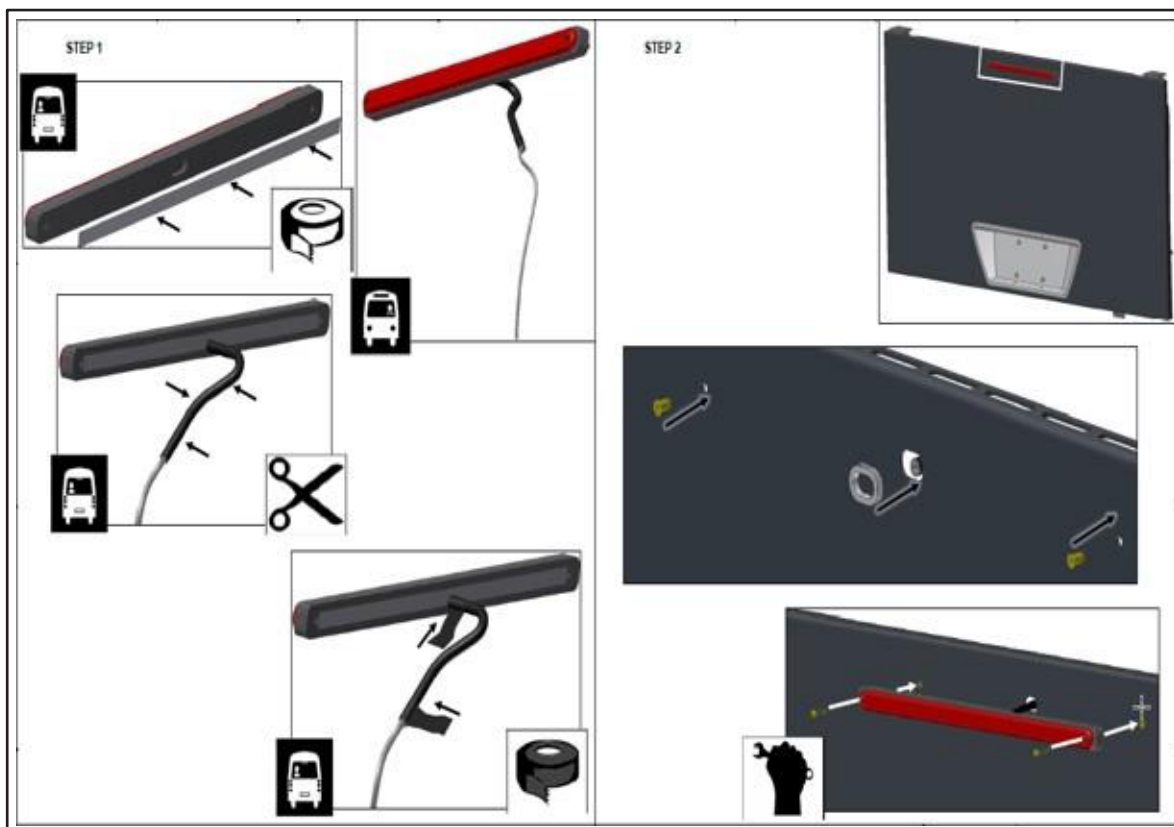

Figure 2 - Disconnecting The Lamp Connectors
- 1.5. Disconnect the lamp connector from the mating vehicle harness connector, employ a small tool like a screwdriver to disengage the locking tab securing the connectors in place(see figure 2).